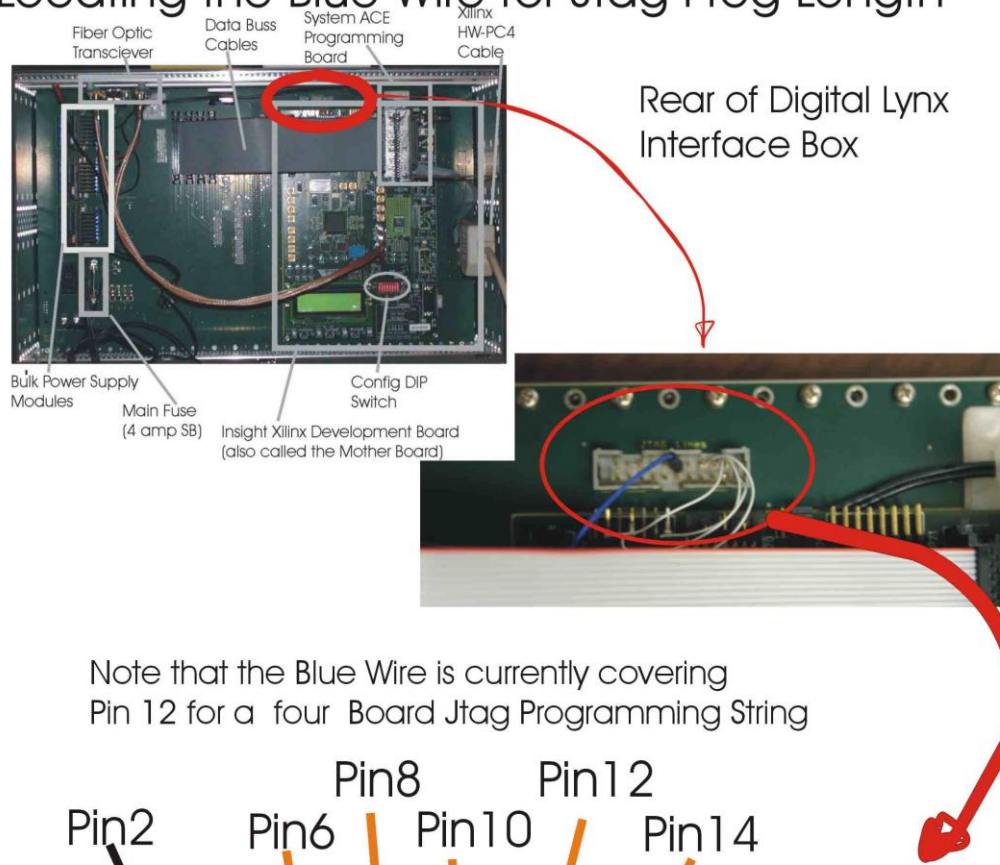

Figure 15-1 Blue Jumper Placement
- 4) Using Table 2 below, set four of the switches on the red DIP switch in the rear of the Digital Lynx Interface Box. This red DIP switch is designated “Config DIP Switch” in the top image of **Figure 15-1** on the previous page.